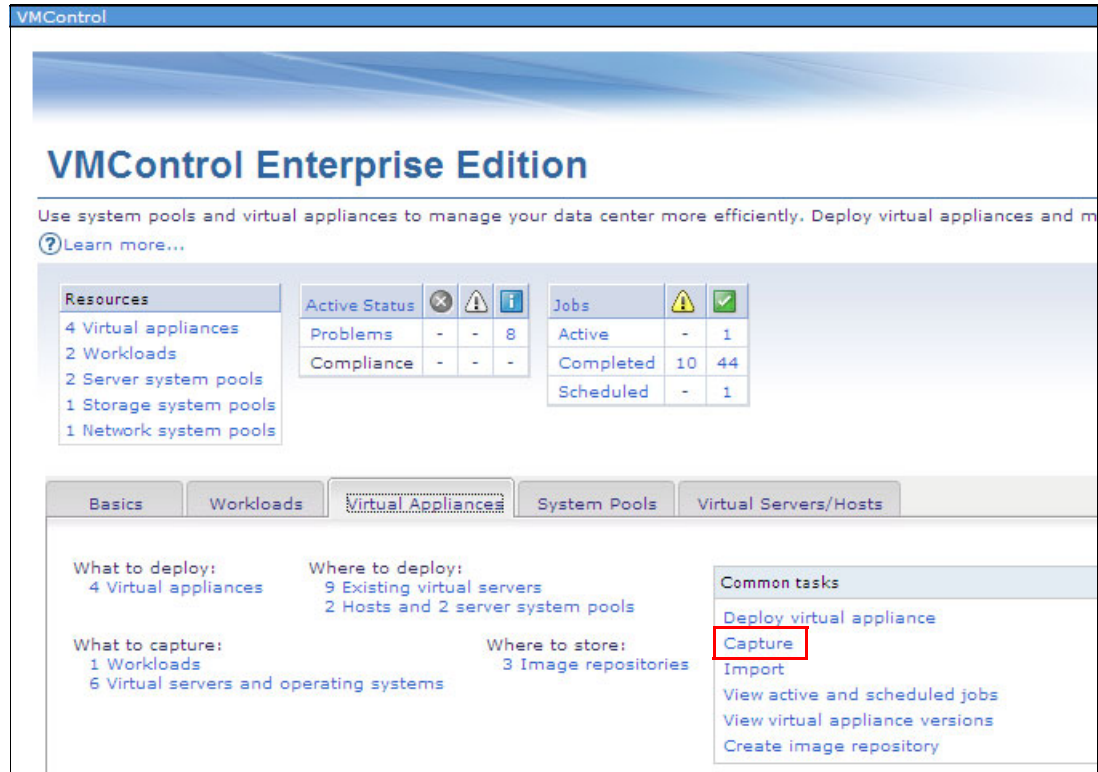

Figure 10-64 Virtual Appliances window
1. Click **Capture** in the **Virtual Appliances** tab, as shown in Figure 10-64.